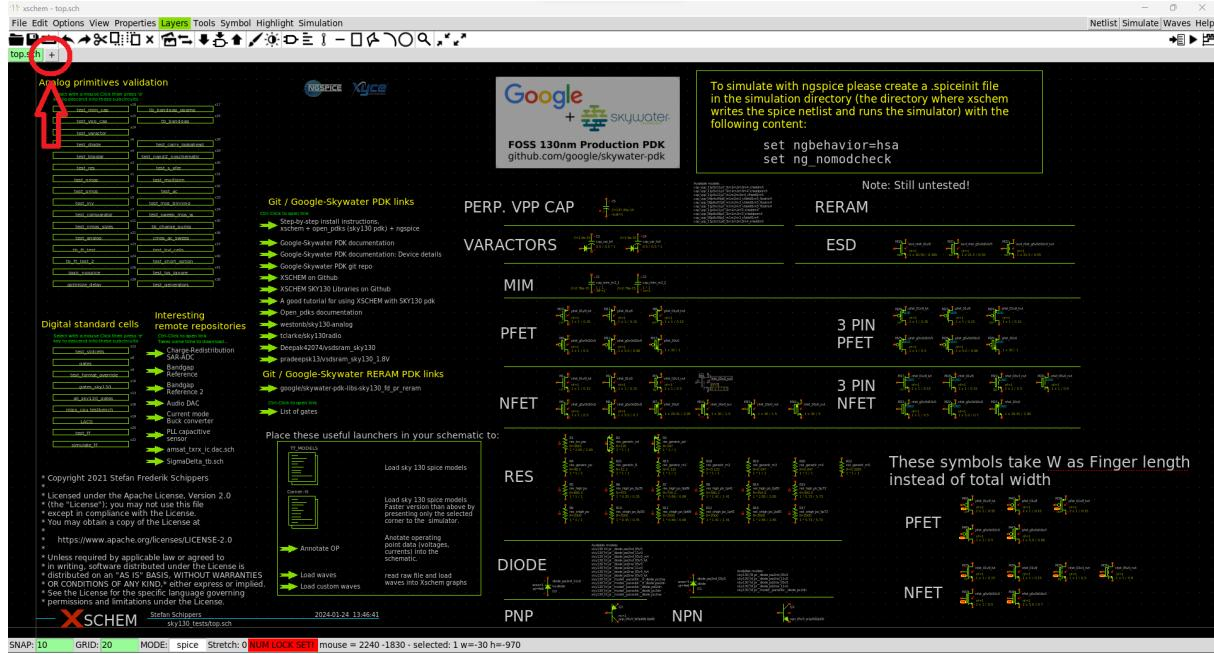

Figure 1: Welcome screen when Xschem is opened.
- Open a new tab by clicking in the ‘+’ symbol indicated by the red arrow on Fig. 1. Click on File -> Save as and save this new design as inverter.sch, ensuring that you are in the folder indicated by a circle. This folder (/foss/designs) points to the **designs folder** defined on section 2. Then, you can go quickly to this path by clicking **Current dir** in the saving or instancing windows.